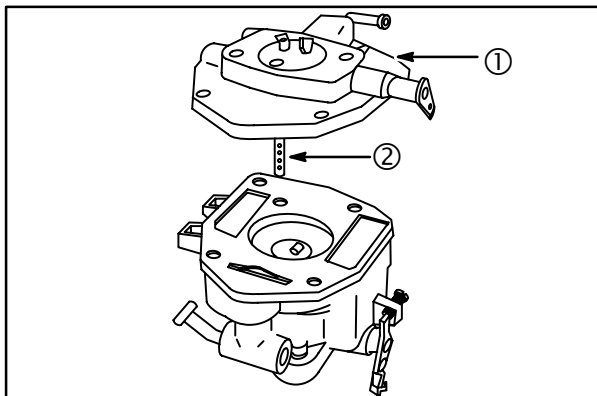

Fig. 78
1. Remove four screws and upper body (1), **Fig. 78**. Do not damage emulsion tube (2) in upper body.